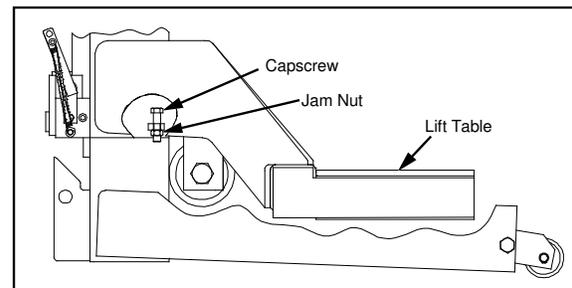

Fig. 10: Lift table clearance adjustment
3. Loosen the jam nut and turn the cap screw a few turns in the required direction. Clockwise raises the lift table, counterclockwise lowers it. (See Fig. 10 for identification.)